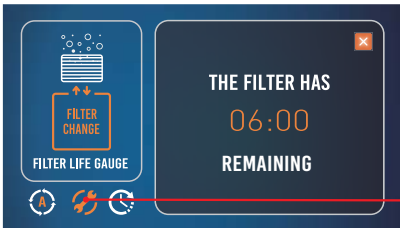

Figure 6.
* By pressing the button Indicates ERROR ICON, you can check the available operating time. See Figure 6.